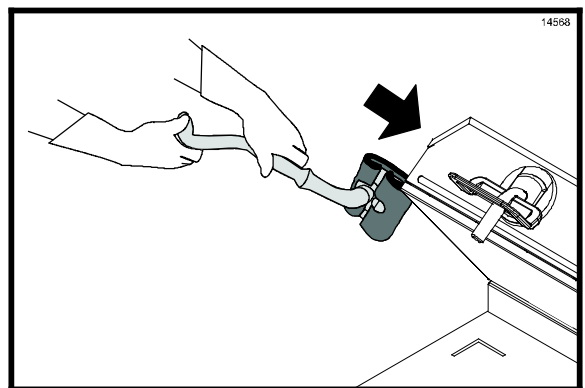

Figure 30
21. Scrub the outer edges of the platen. (See Figure 30.)